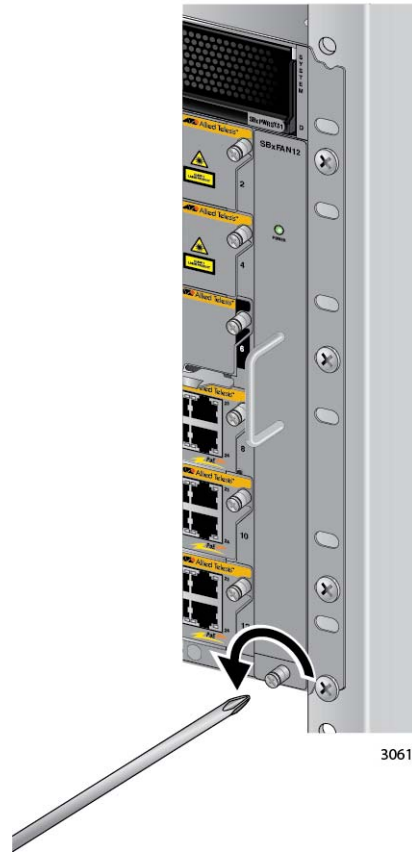

Figure 177. Loosening the Screw on the AT-SBxFAN12 Fan Module
2. Use a #2 Phillips head screwdriver to loosen the screw at the base of the fan module. Refer to Figure 177 on page 281.